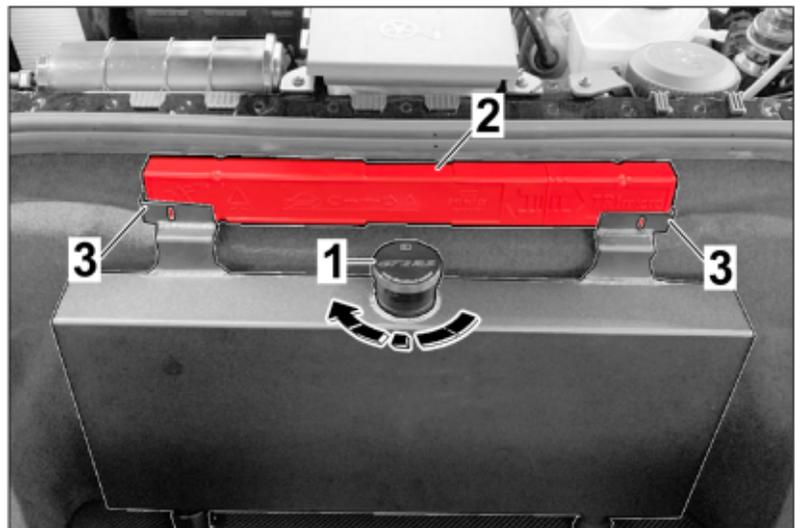

Figure 84
10.5.3 Install "GT2 RS" cap on the new water tank (⇒ Figure 84 -Arrow-).
10.5.4 Install warning triangle in clips for water tank (new) (⇒ Figure 84).